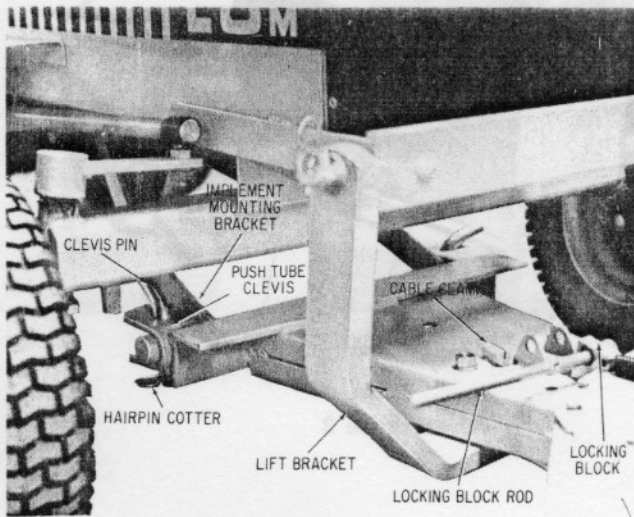

Figure 4
1. Engage the lower bar of the implement mounting bracket with the open end of each clevis on the blade push tube. Secure with L-shaped clevis pins and hairpin cotters. See Figure 4. Note that the mounting rod which holds the blade to the push tube fits into the lower holes of the blade mounting flanges.